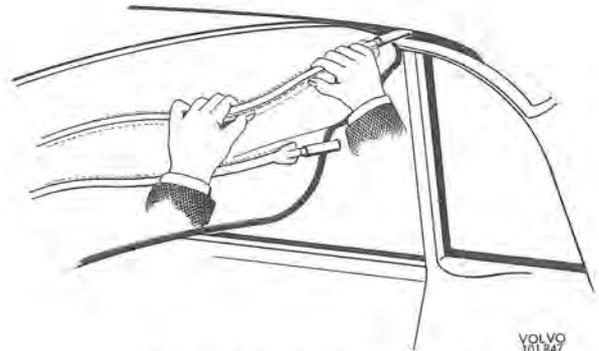
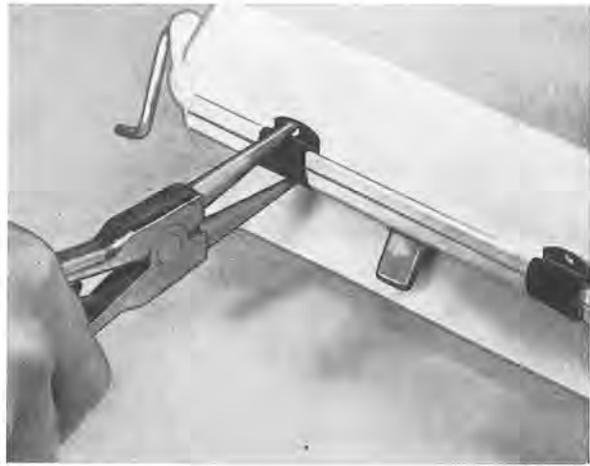

Fig. 8-33. Removing the roof stretchers
Fig. 8-36. Removing spring clips
4. Take down the stretchers beginning from the back by bending them down in the middle and releasing them from the edge of the roof as shown in Fig. 8-33. N.B. Be careful when removing and fitting the stretchers. Careless handling can cause the ends to damage the roof plate.
Remove the four rubber bushes on the sides of the heater, Fig. 8-36 and separate the two halves. This ssembly. Remove the spring clips which hold the heater, Fig. 8-33 and separate the two halves. This exposes both the cell system with sensitive body for control valve and the fan motor.